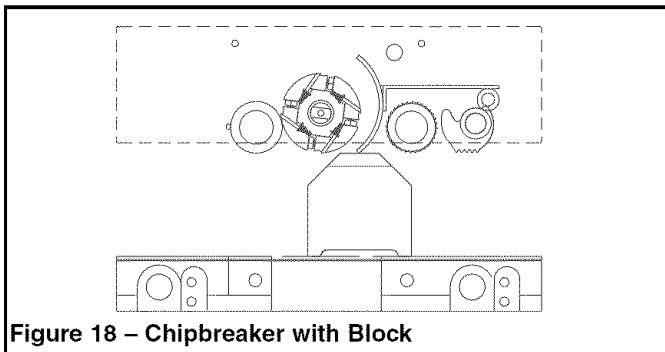

Figure 18 – Chipbreaker with Block
- Remove feeler gauge and slide adjustment block under chipbreaker (See Figure 18). Chipbreaker should just contact adjustment block. If chipbreaker is too high or too low, loosen hex nut on set screw (Figure 21, Key Nos. 25 and 44) above chipbreaker. Rotate set screw to position chipbreaker properly. Secure position by tightening hex nut on set screw.